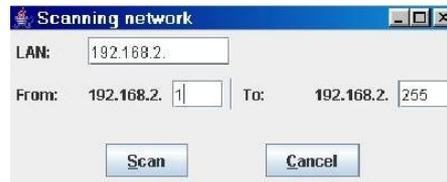

Figure A.4.: Searching the Network
2. Enter the LAN IP, so the IP of the subnet, start index and end index (see Figure A.4).